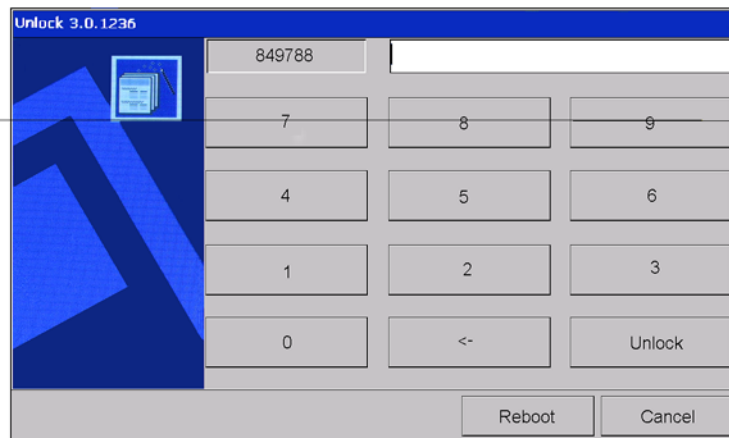

Figure M.4: Unlock Keypad
*Note: If you attempt to power off or reboot the mTablet and you see the Unlock Keypad in Figure M.4, you have held the Power Button down more than 6 seconds. Press the Power Button on the mTablet to reboot again. (For more information, please refer to the hardware documentation “mTablet/mStation Setup Guide”, posted on the Hardware Portal at <http://portals.micros.com/hardware/HSG/pages/mTablet%20mStation.aspx>.)*